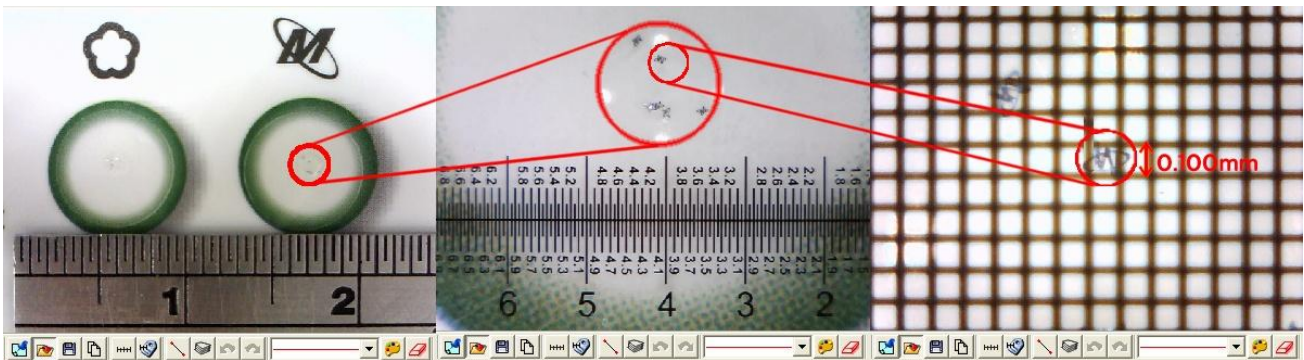

Fig. 5-35 High Magnification Grid
- d. 0.1mm High Magnification Grid: See Fig 5-35, put the 0.1mm scale (See above chart d) on “” microdot. The Length of  in a square i.e. 0.100mm.